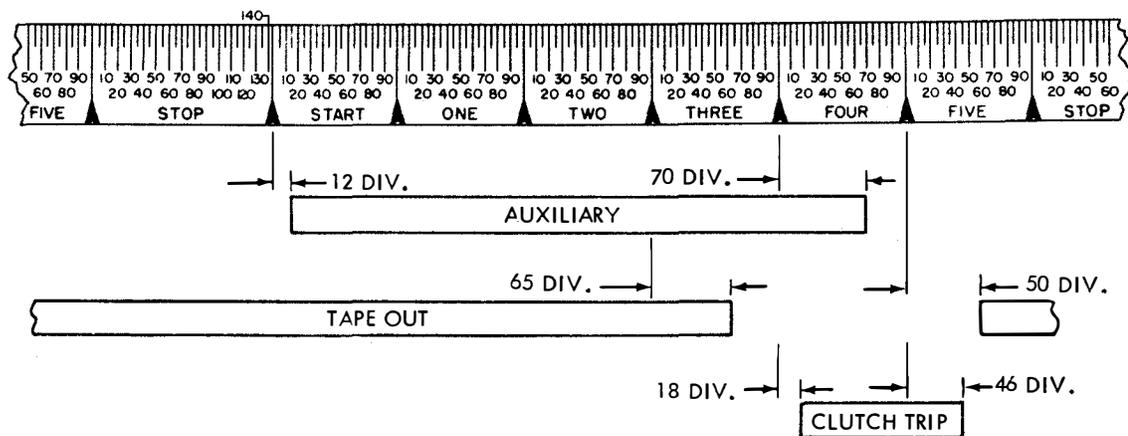

Figure 6 - Pulse Length Requirements for Storing Switch Auxiliary Contacts (28B Unit)
- (3) With test set connected to tape-out contact or 6th pin contact of 28B unit and with no tape in the pivoted head transmitter, contact shall close at 50 ± 30 divisions in No. 5 pulse segment of test-set scale and open at 65 ± 30 divisions in No. 3 pulse segment of test-set scale. (See Figure 6.)